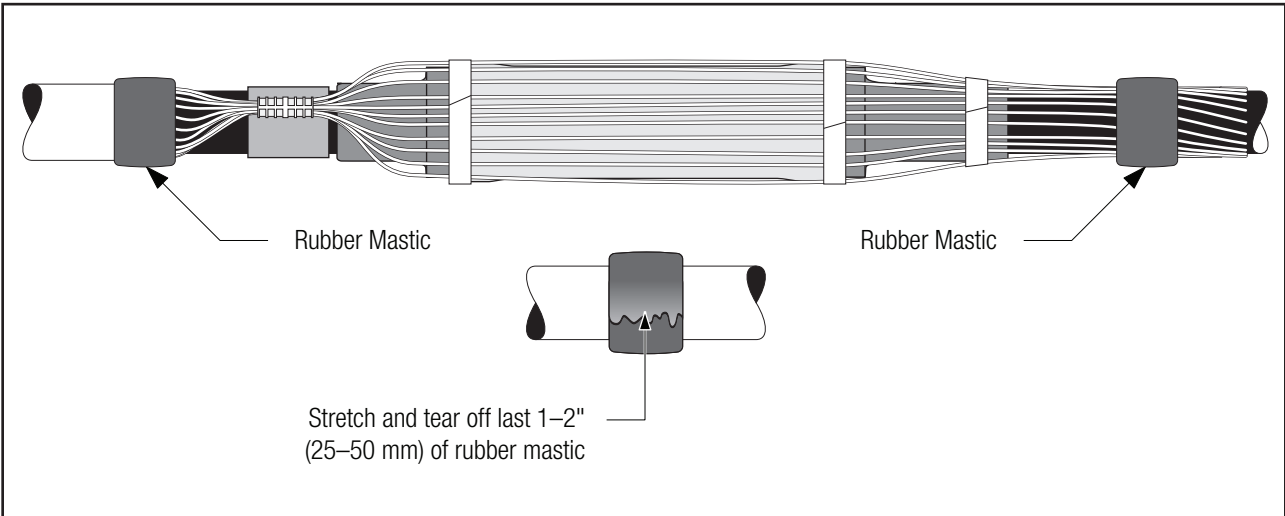

Figure 45
12.1 Apply one roll of slightly stretched rubber mastic tape around JCN cable jacket end (tacky side toward cable). If ground wire is connected, apply rubber tape over mastic sealing strips. Apply one roll of rubber mastic tape over CN cable mastic seal (tacky side toward cable). Stretch and tear off the end of the rubber mastic as shown (*Figure 45*).